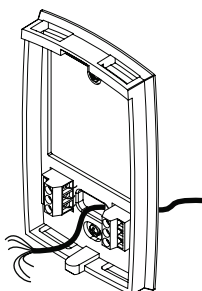

Figure 2
- ❹ Drill holes at the marked positions and insert supplied wall anchors.
- ❺ Pass the wires through the large opening located at the bottom center of the wallplate as per Figure 2.